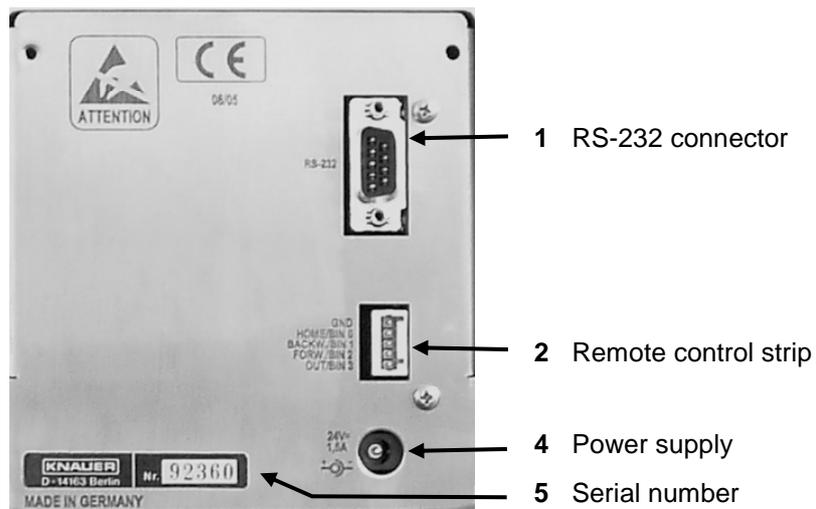

Fig. 4 Rear view of the valve drives S 6/-12/-16
The power supply for the drive is not included in the housing. Please connect the power supply to the drive (item 4 in Abb. 4). Then connect the power cable to the power supply and the socket.